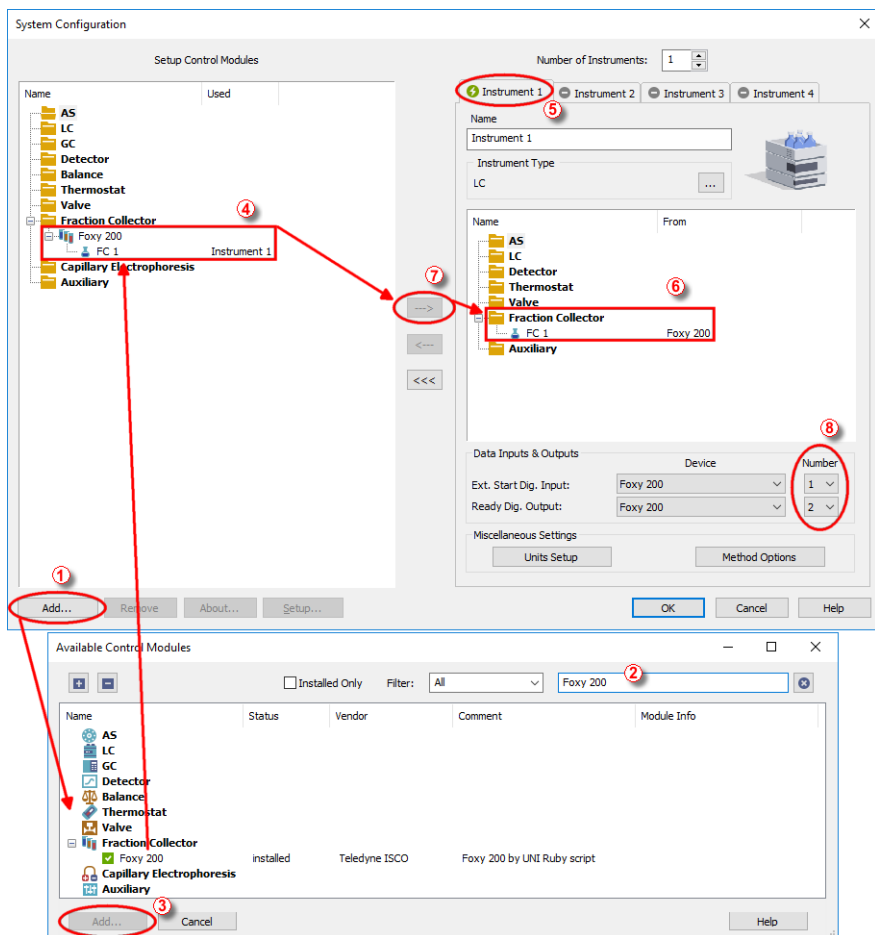

Fig 3: How to Add Foxy 200 Control Module
- Press the **Add** button (1) on 3.2 on pg 5.) to invoke the **Available Control Modules** dialog.
- You can specify the search filter (2) to simplify the finding of the driver.
- Select the correct item and press the **Add** (③ on **Fig 3** on pg 5.) button. Each device with already created profile should have its own item named accordingly in the **Available Control Modules** dialog.